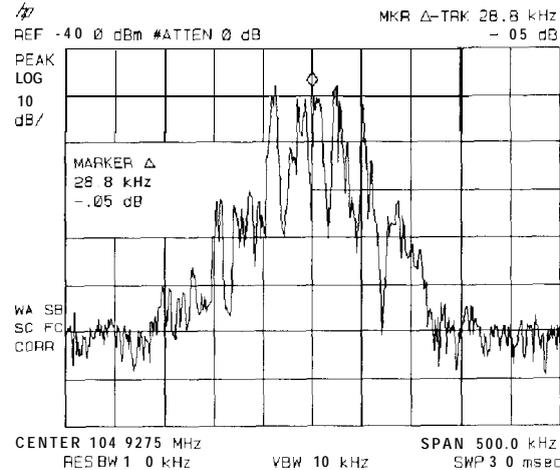

Figure 3-9. Using Marker Tracking to Track an Unstable Signal
5. The signal frequency drift can be read from the screen if both the marker track and marker delta functions are active. Press **(MKR)**, **MARKER Δ**, **(MKR FCTN)**, **MK TRACK ON OFF**; the marker readout indicates the change in frequency and amplitude as the signal drifts. See Figure 3-9.